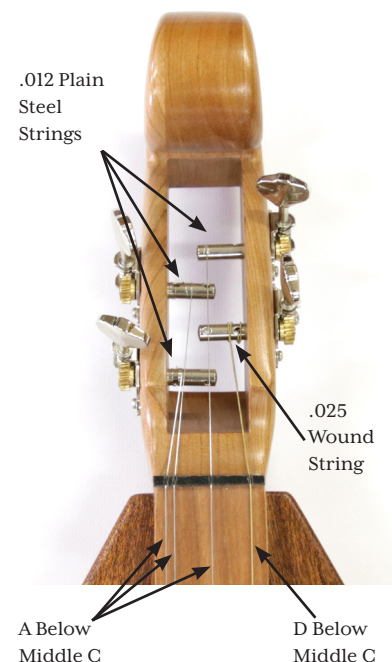

FIG. 30
We like hiding the ends of the strings this way. It eliminates the need for tail pins that might get caught on your clothing. Thread the other end through the hole in the appropriate geared tuner, as shown. (fig. 30)
A.) Begin with the thick wound string (.025" diameter). This is the bass string, and it goes to the far right-hand position. (fig. 30) Push the ball end into the tail end of the Fretboard from the right hand side.